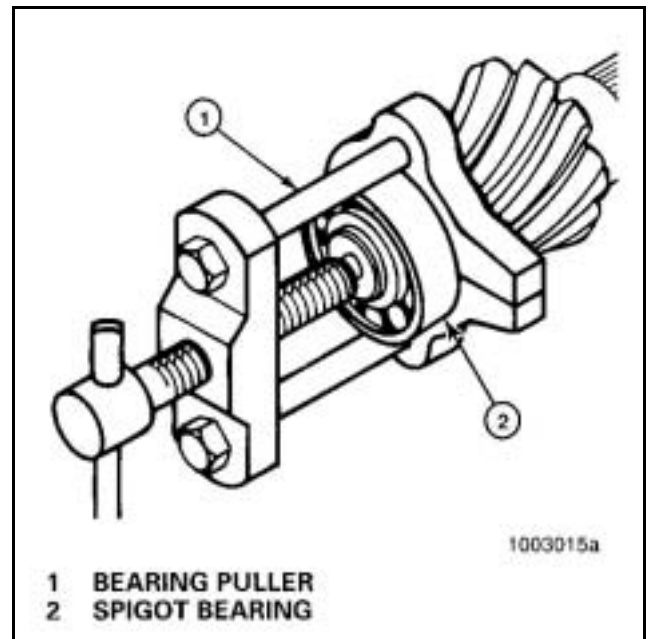

Figure 33
10. Remove the spigot bearing from the drive pinion with a bearing puller. **Figure 33.**